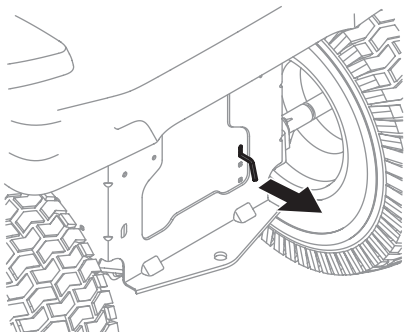

Figure 1
1. Engage the transmission bypass rod to move the tractor manually without starting it. The transmission bypass rod is located on the rear of the tractor, on the frame. Engage the bypass rod by pulling out. See Figure 1.
2. Disengage the transmission bypass rod by pushing the rod back in after moving the tractor. See Figure 1.